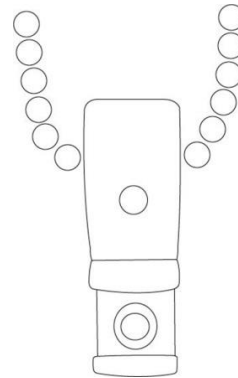

Figure 2
- ii) Carefully align the chain control mechanism with the control bracket (part B) (Figure 2) (this is the one with the cross). Push the blind into the control bracket, ensuring the chain is hanging directly down. Hook into place with a gentle downward motion
2. Install the tension device onto the reveal/frame, making sure that the loop chain hangs with minimal tension (Figure 2)